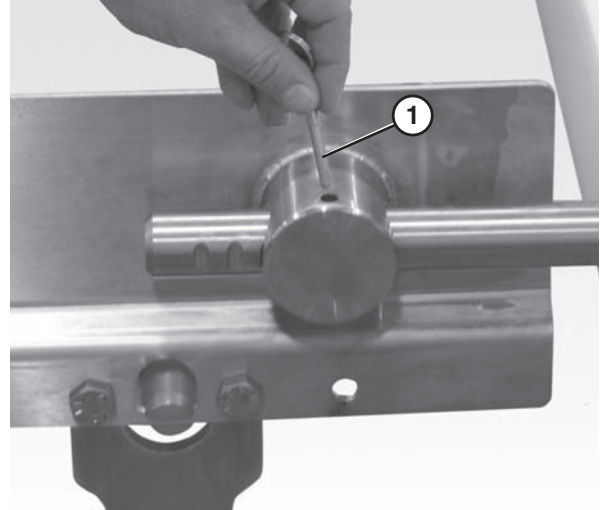

Figure 53
1. Remove the pull pins (Figure 53, item 1) on the tension end of the conveyor to release tension on the belt.